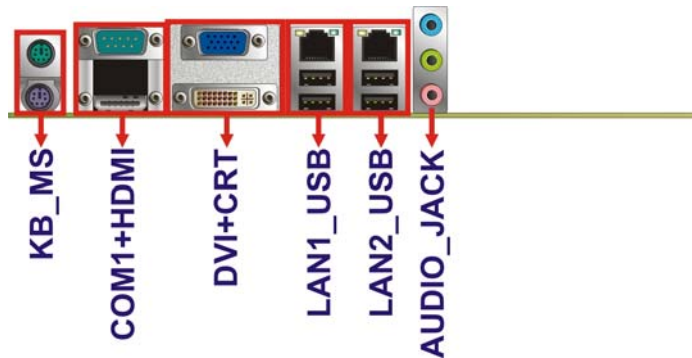

Figure 3-24: External Peripheral Interface Connector
| CN Location: | See Figure 3-24 |
- CN Location:** See **Figure 3-24**
CN Location: See **Figure 3-24**